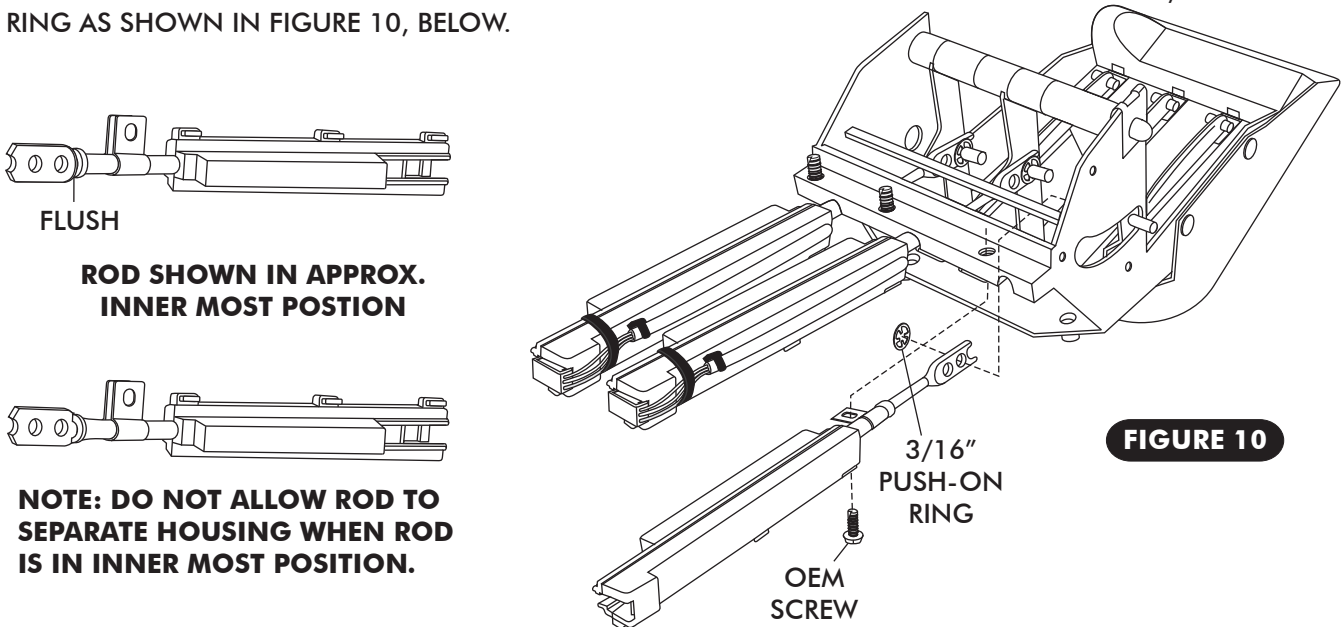

FIGURE 10
- INSTALL CABLE CONVERTER ASM ON THE OFF/ HI LEVER. SEE FIGURE 10, BELOW
- INSTALL CABLE CONVERTER LEVER PUSH ROD ONTO OEM CABLE MOUNTING STUD ON LEVER. SEE FIGURE 10, BELOW.
- SECURE THE CABLE CONVERTER ASM TO THE CONTROL PANEL USING THE OEM SCREW IN THE OEM CABLE CLAMP MOUNTING LOCATION. SEE FIGURE 10, BELOW.
- SINCE THE CABLE CONVERTER ASSEMBLY CAN SLIDE BACK AND FORTH IN CLAMP BEFORE SCREW IS TIGHTENED, POSITION CABLE CONVERTER ASSEMBLY SUCH THAT THE FLAT PART OF THE ROD IS AS CLOSE TO FLUSH AS POSSIBLE WITH THE END OF HOUSING AT THE LEVER'S INNER MOST POSITION. SEE FIGURE 10.
- SECURE CABLE CONVERTER LEVER PUSH ROD ONTO OEM CABLE MOUNTING STUD USING 3/16 PUSH-ON RING AS SHOWN IN FIGURE 10, BELOW.